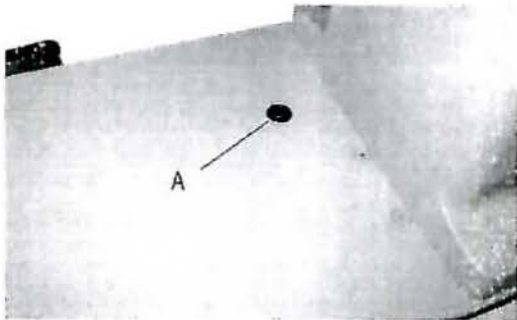

Fig.35
22. TO RE-ENGAGE THE SAFETY CLUTCH (Figs. 35 & 36)